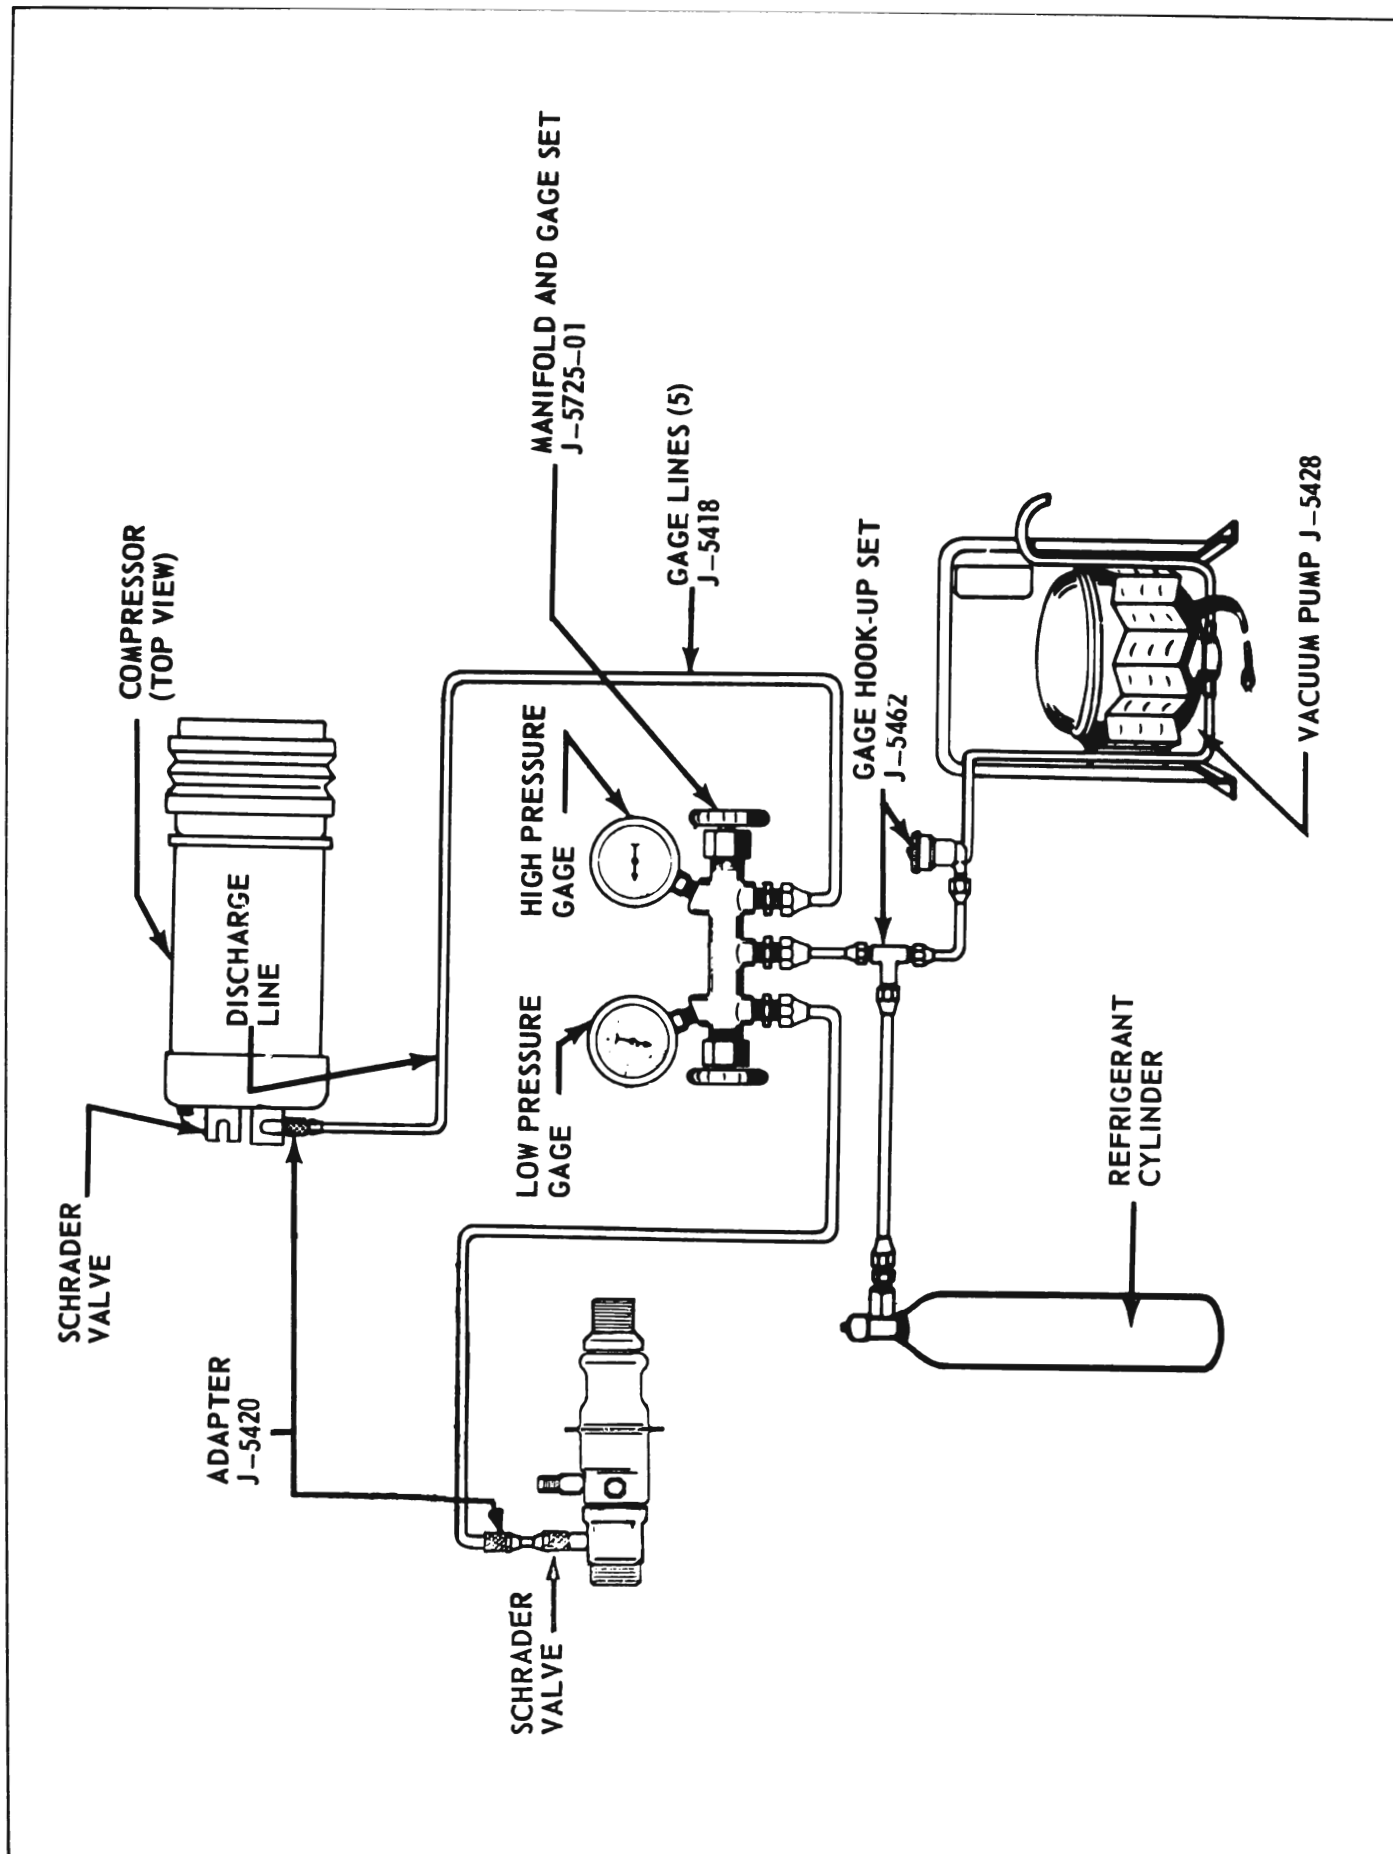

Figure 13-128 Charging Air Conditioner System
2. Interconnect vacuum pump (J-5428), manifold and gage set (J-5225-01), gage hook-up set (J-5462), gage adapters (J-5420), five gage charging lines (J-5418) and Refrigerant-12 cylinder with air conditioning system with air conditioning system (see Figure 13-128). Be sure all valves are closed.
2. Connect high pressure charging line to Schrader valve on compressor using adapter J-5420 (see Figure 13-128).